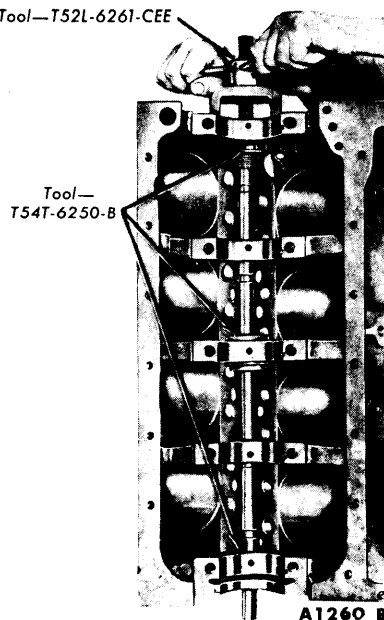

FIG. 57—Camshaft Bearing Replacement
2. Remove the camshaft rear bearing bore plug. Remove the camshaft bearings (Figs. 57 or 58).
3. Position the new bearings at the bearing bores, and press them in place with the tool shown in Fig. 57 or Fig. 58. Align the oil holes in the bearings with the oil holes in the cylinder block when the bearings are installed. **Be sure the front bearing is installed 0.005-0.020 inch below the front face of the cylinder block (Fig. 59).**
35. Remove the camshaft rear bearing bore plug. Remove the camshaft bearings (Fig. 57).
3. Position the new camshaft bearings at the bearing bores, and press them in place with the tool shown in Fig. 57 or Fig. 58. Align the oil holes in the cylinder block when the bearings are installed. **Be sure the camshaft front bearing is installed 0.005-0.020 inch below the front face of the cylinder block (Fig. 59).**